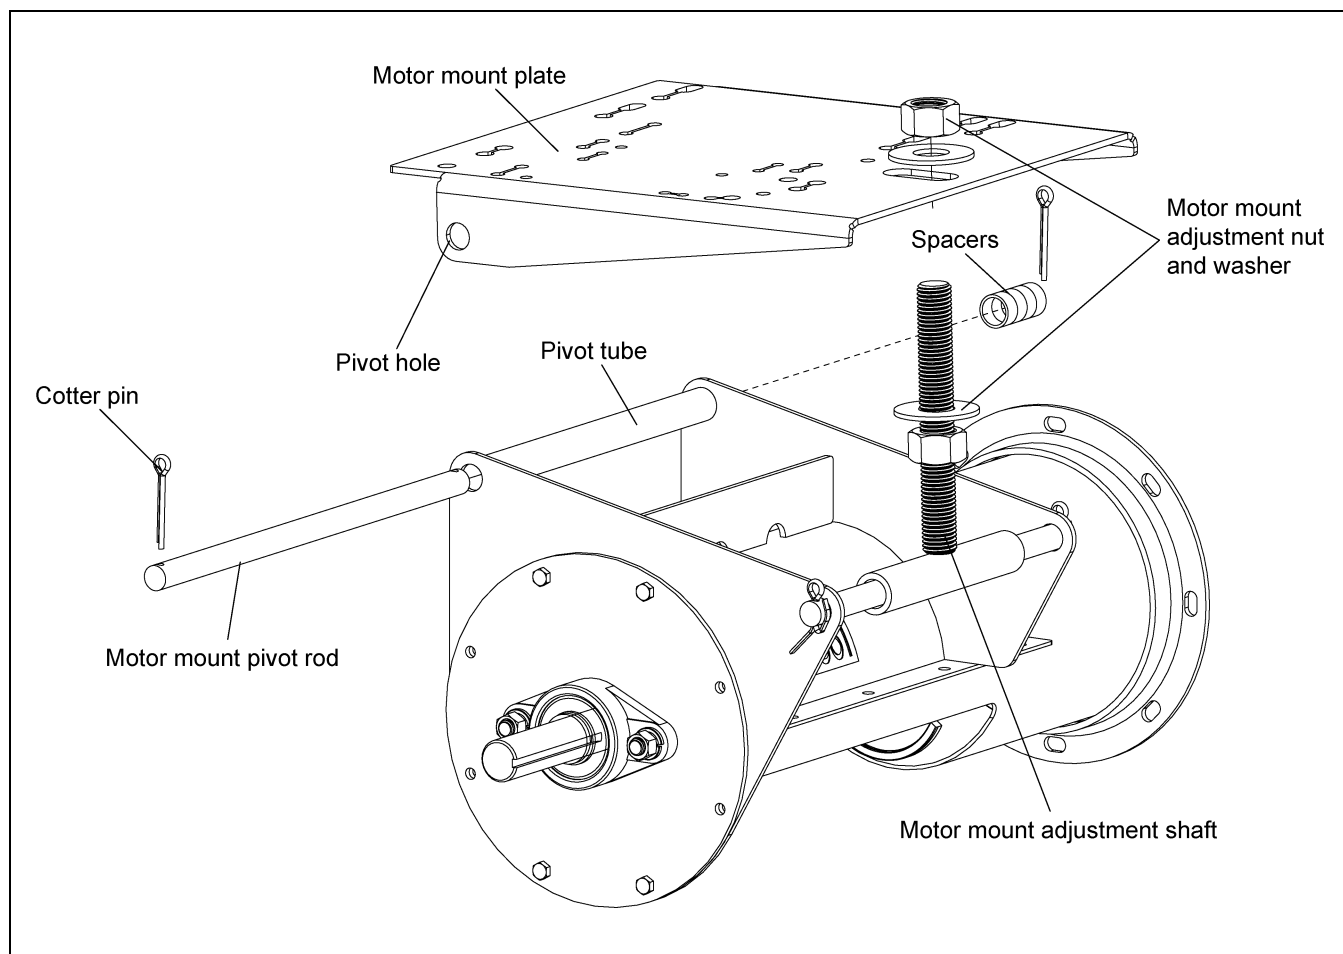

Figure 4G
1. Secure one (1) of the motor mount adjustment nuts and one (1) of the motor mount adjustment washers approximately 3/4 of the way down the motor mount adjuster's threaded shaft.
2. Once the nut and washer is secure, slip the motor mount plate over the adjuster and align the pivot holes with the pivot tube. *(See Figure 4G.)*